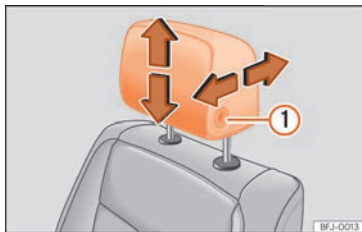

Fig. 111 Front seat: headrest adjustment.
- Move the headrest up or down in the direction of the corresponding arrow. Regarding the rear headrest, to both raise and lower, press the button » Fig. 111 (1); for the rear headrests it is only necessary to press the button » Fig. 112 (1) to lower them » ⚠ in Introduction on page 126.
- Move the headrest forward or back in the direction of the corresponding arrow while pressing the button »» Fig. 111 ①.